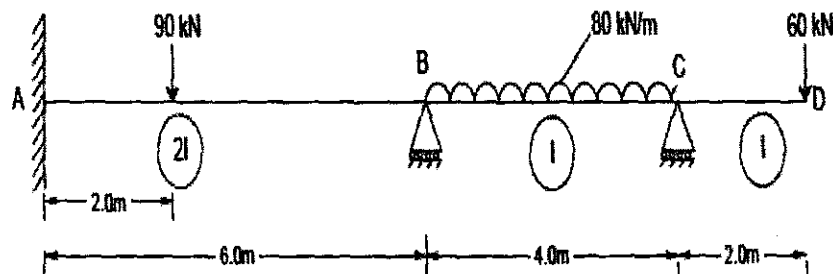

fig 7
7. Analyze the Continuous beam shown in fig7 by stiffness matrix method. CO3 (20)